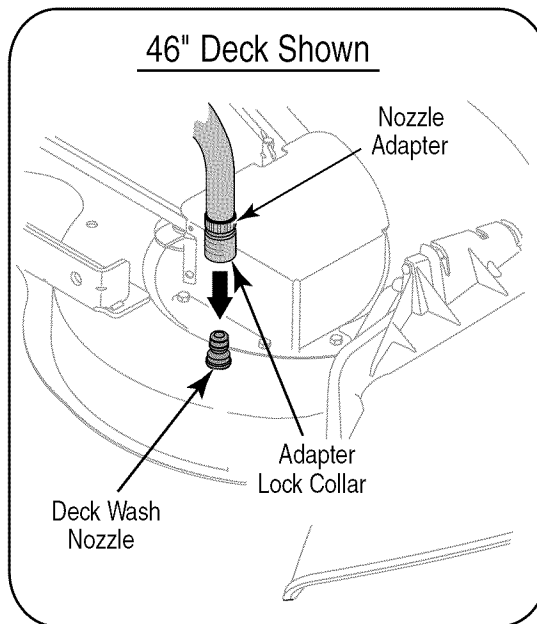

Figure 22
4. Pull back the lock collar of the nozzle adapter and push the adapter onto the deck wash nozzle at the left end of the mower deck. Release the lock collar to lock the adapter on the nozzle. See Figure 22.